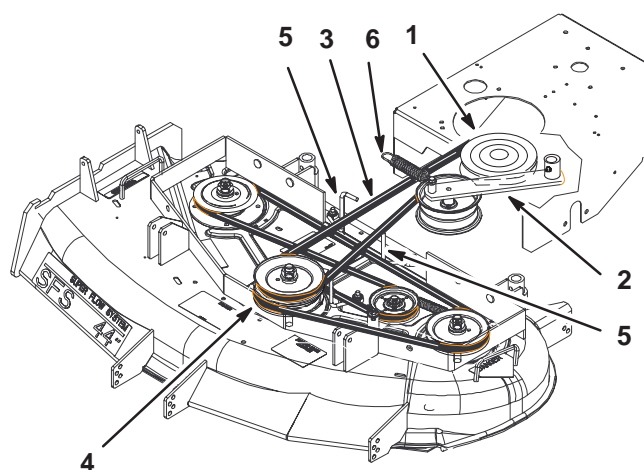

Figure 59
5. Remove the idler spring from idler arm. Remove the drive belt from the PTO engagement pulley and the center spindle pulley (Fig. 59).
6. Remove the worn drive belt (Fig. 59).
7. Install the new drive belt onto the PTO engagement pulley and the top groove of the center spindle pulley (Fig. 59).
8. Install belt onto idler pulley and then install idler spring (Fig. 59).
9. Adjust PTO drive belt guides an 1/8 in. from belt (Fig. 59).